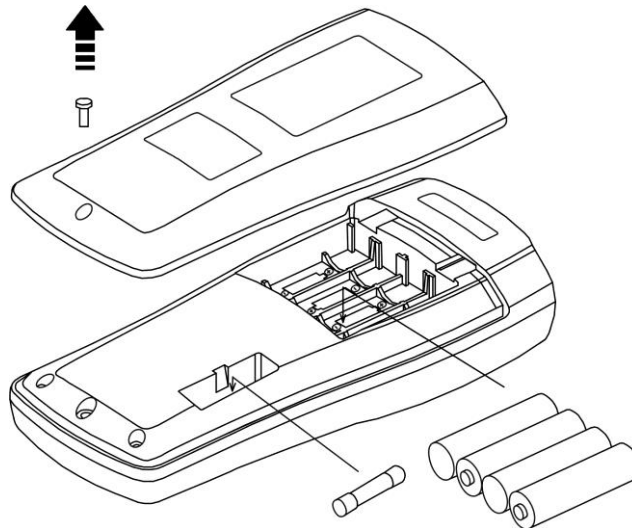

Fig. 11: Replacing the batteries and the internal fuse
3. Remove the batteries and insert the same number of batteries of the same type (see § 7.1.3) respecting the correct polarity, then restore the battery compartment cover (see Fig. 11). Use the relevant containers for battery disposal.